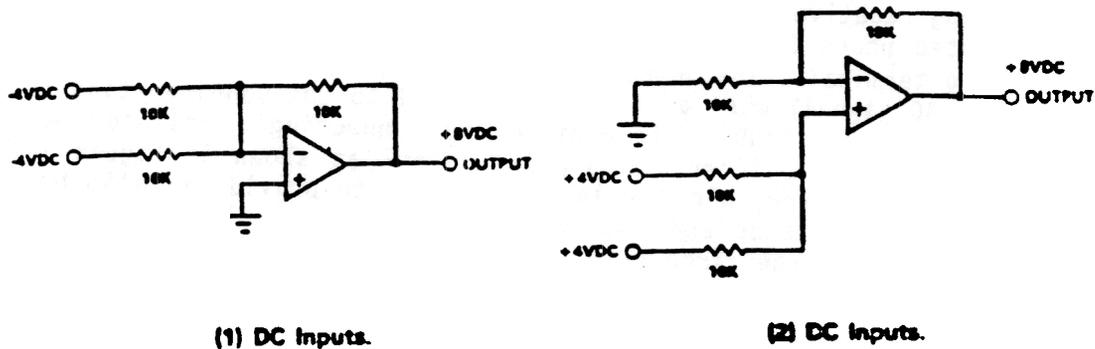

Figure 15A. Summing amplifiers
DC voltage. DC voltages applied to the inverting terminal will provide an output DC voltage of the opposite polarity from the input. DC voltages applied to the non-inverting terminal will provide an output DC voltage of the same polarity as the input. Usually all the input DC voltages to a summing amplifier are the same polarity, either positive or negative. Refer to Figures 15A(1) and (2) for examples.